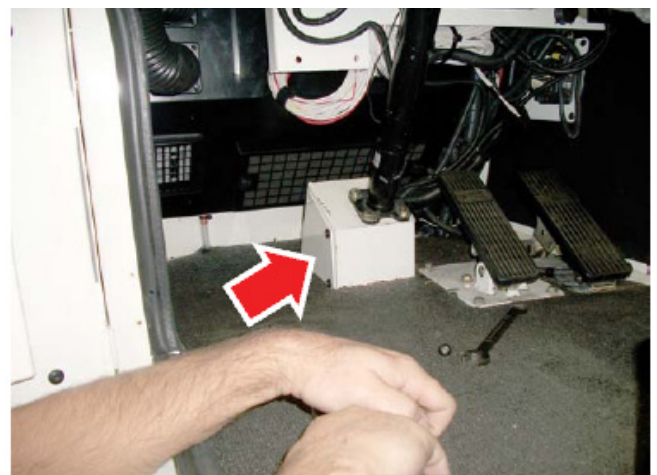

Figure 3
1. Remove the access cover to the steering column riser and set aside along with fasteners for reinstallation (See Figure 3).